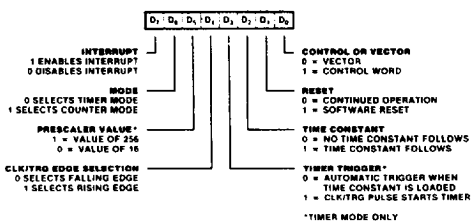

Figure 14: CTC Channel Control Word
**Channel Control Word (Figure 14).** This word sets the operating modes and parameters as described below. Bit D0 must be a "1" to indicate that this is a Control Word.